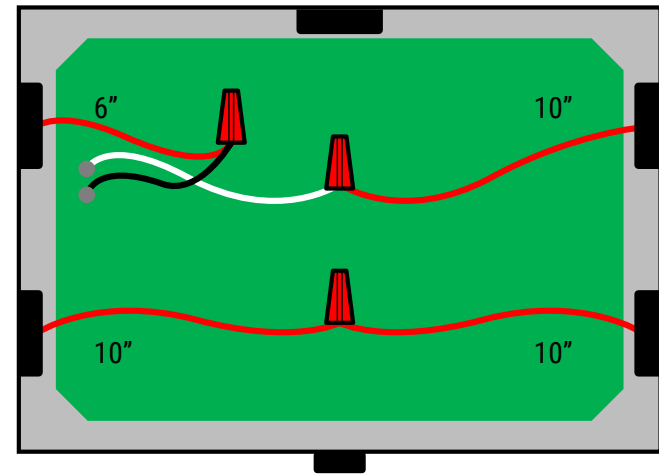

Fig. 9
- Wire inside as shown by the inset (**Fig. 9**):